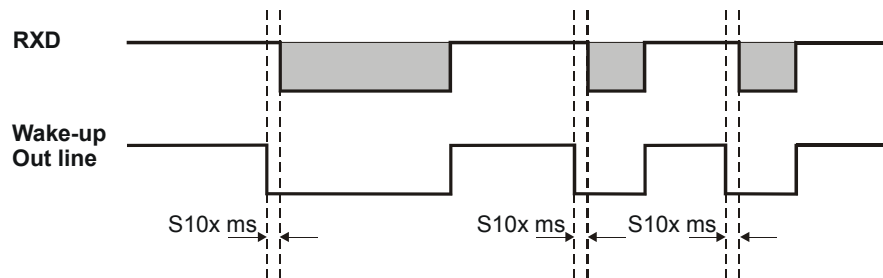

Figure 11. Waking Up the DTE when the g20 wants to Send Data
- The g20 will send the Wake-up Out line #ms to low, as indicated by S102 in Figure 11.